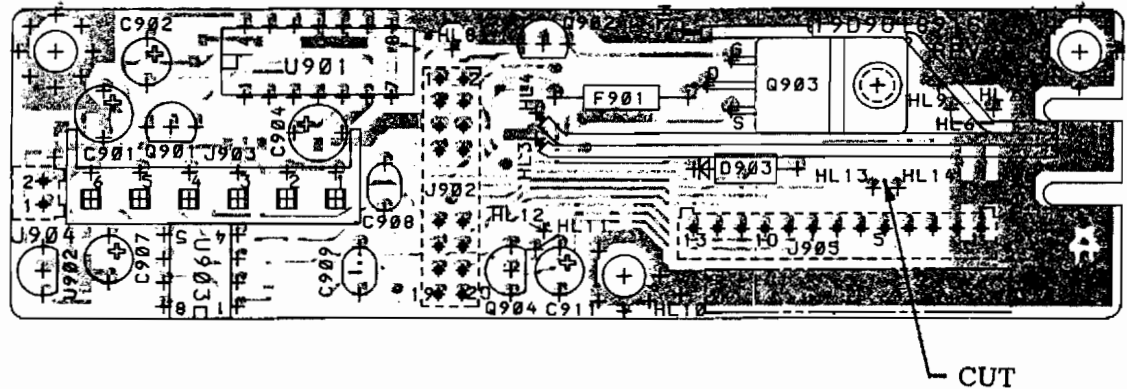

FIGURE 8
1. CUT PATTERN BETWEEN HL13 AND HL14 ON THE COMPONENT SIDE OF THE BOARD (FIGURE 8).